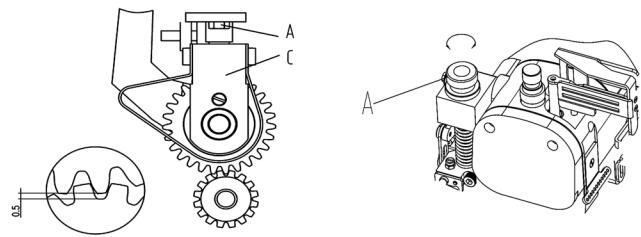

图20(Fig.20)
上下滚轮的间隙：将下滚轮放至下死点在自由状态时，上滚轮与下滚轮的齿间隙为0.5mm(图20)，且两滚轮平行。调整：
1.两滚轮平行调整：将螺钉(A)放松，调整两滚轮平行后，稍紧螺钉(A)上下移动固定座(C)，使上下滑动顺畅，再锁紧螺钉(A)。(图20)
The teeth gap between top and lower rollers should be 0.5mm (Fig.20),when the lower roller is free and at its dead bottom end and parallel to the top roller.
Paralleling Loosen screw (A) .and top and lower rollers parallel .Tighten screw (A) slightly and move frame Base (C) up and down to its smooth .The tighten screw (A) 。(Fig.20)